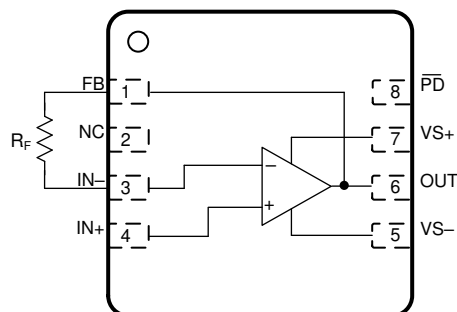

图 8-4. R_F Connection Between FB and IN - Pins
1. A feedback resistor (R_F) can connect between the FB and IN - pin on the same side of the package (see 图 8-4) rather than going around the package.